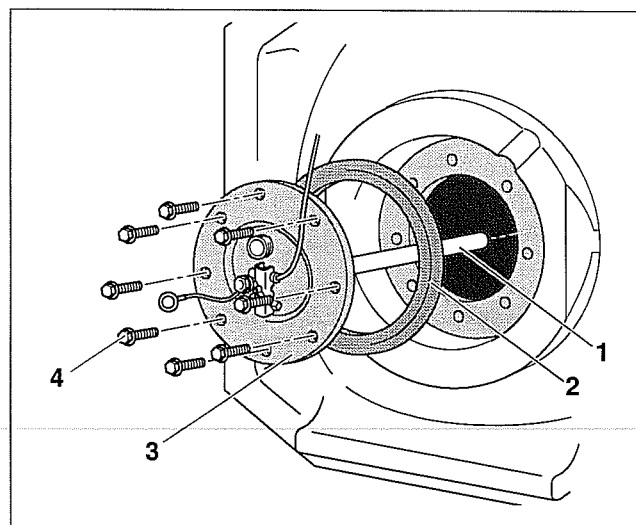

Fig. 15 Removal of clean-out cover
- Remove hex head bolts (Fig. 15, **Item. 4**) from the clean-out cover (Fig. 15, **Item. 3**).
- Remove clean-out cover together with Magnesium anode (Fig. 15, **Item. 1**) and gasket (Fig. 15, **Item. 2**).